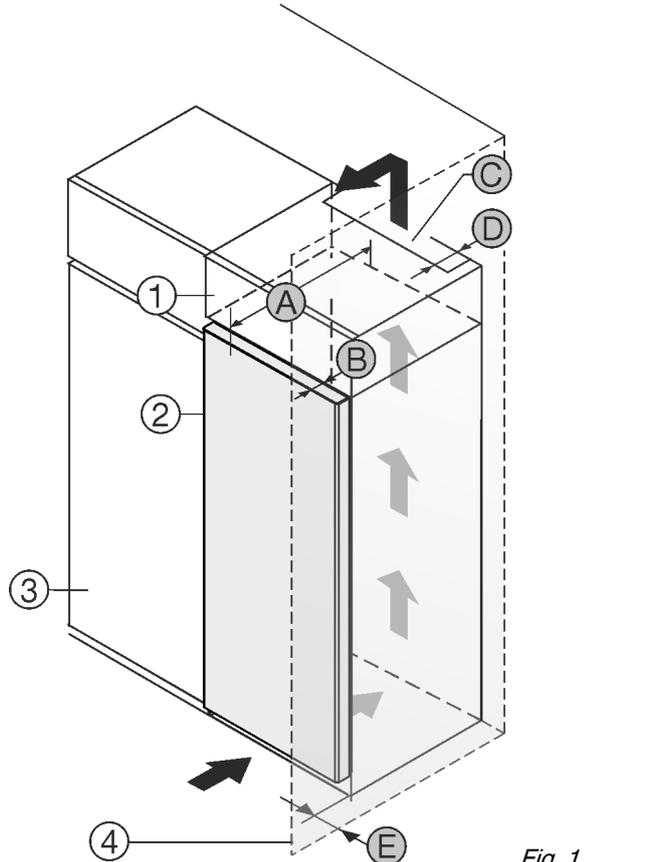

Fig. 1
Set up the appliance directly next to the kitchen cabinet Fig. 1 (3).\*
At the back of the top cabinet, there must be an air outlet shaft with the depth Fig. 1 (D) spanning the entire width of the cabinet.
The ventilation cross-section Fig. 1 (C) must be maintained under the ceiling.
If the appliance is set up with the hinges next to a wall Fig. 1 (4), the distance between the appliance and the wall must be at least 13 mm.
The appliance must protrude by the depth of the door Fig. 1 (B) from the front of the cabinet so that the doors can be opened fully. The appliance may protrude further depending on the depth of the kitchen cabinets Fig. 1 (3) and whether wall spacers are used.\*